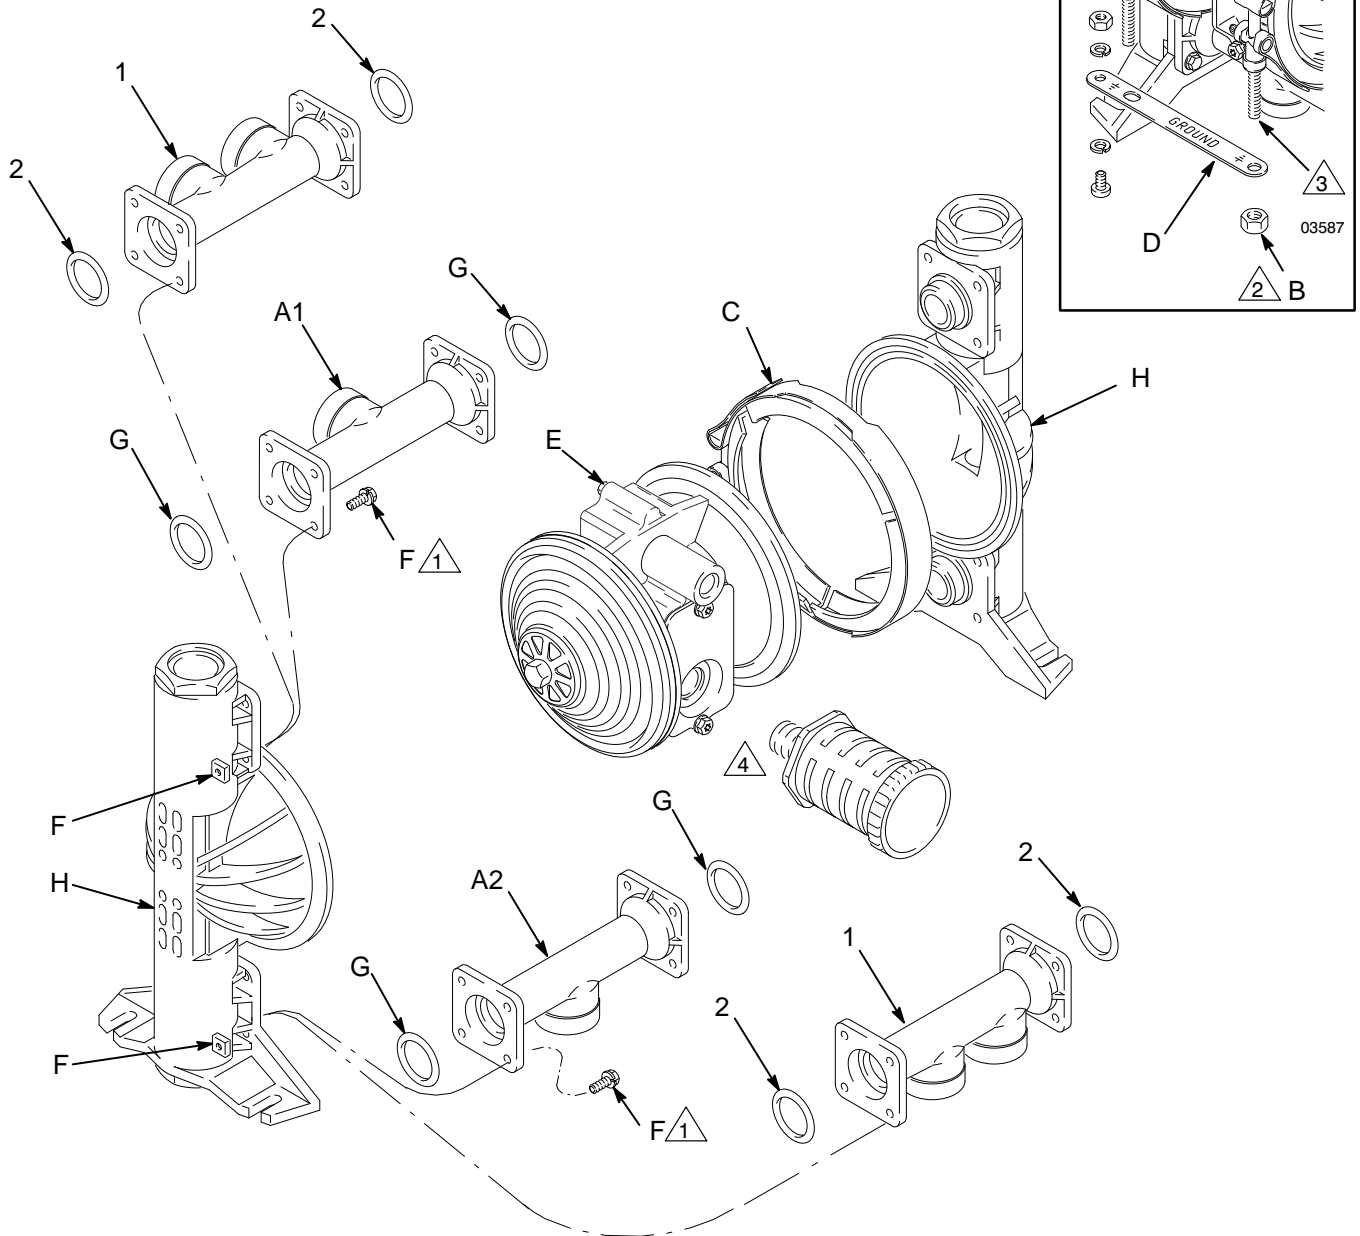

Fig. 1
See Fig. 1
3. Remove the clamp nuts (B) from the clamps (C), and remove the grounding strip (D).
4. Remove both of the clamps (C) from the pump (see **DETAIL A** in Fig. 1) as follows:
- a. Work the clamp off of the rim of the diaphragm toward the center housing (E).
- b. Pull the bolt end of the clamp between the upper manifold (A1) and the center housing (E).
5. Remove the fluid inlet or fluid outlet manifold (A1 or A2) that you are replacing with a split manifold (1). Keep the manifold attaching hardware (F).
6. Remove the o-rings (G) from each fluid cover (H), and replace them with the new o-rings (2) from the kit.
7. Install the split manifolds (1) with the ports facing in the desired direction. Apply thread lubricant to the screws, and torque them to 30 to 35 in-lb (3.4 to 4.0 N.m). **Do not over-torque.**
8. Re-install both of the clamps (C) as follows:
- a. With the air valve side of the pump facing you, and with the clamp at a 45-degree angle relative to the manifolds, push the bolt end of the clamp between the lower manifold (A2) and the center housing (D).
- c. Slide the bolt end of the clamp between the upper manifold and the center housing so that the clamp bolt is on the air valve side of the center housing and pointing toward the bottom of the pump, as shown in DETAIL A in Fig. 1.
9. Install the grounding strip (D) on the clamp bolts.
10. Apply thread lubricant to the bolts, and torque the clamp nuts (B) to 75 to 85 in-lb (8.5 to 9.6 N.m).